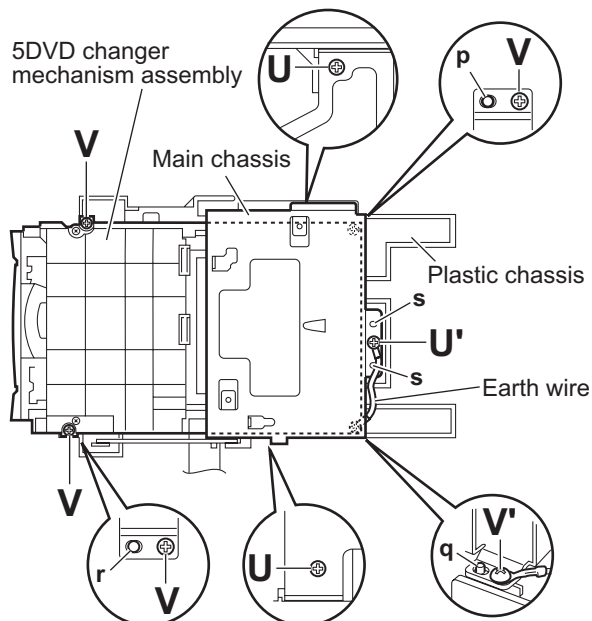

Fig.23
- (4) From the both and top sides of the 5DVD changer mechanism assembly, remove the two screws **U** and screw **U'** attaching the main chassis. (See Fig.23.)
- Align the projections **s** of the plastic chassis to the holes of the main chassis before attaching the screw **U'**. (See Fig.23.)
- When attaching the screw **U'**, attach the earth wire with it. (See Fig.23.)
- (5) Take out the main chassis.
- (6) From the top side of the 5DVD changer mechanism assembly, remove the three screws **V** and screw **V'** attaching the 5DVD changer mechanism assembly on the plastic chassis.
- When reassembling, align the projections (**p**, **q**, **r**) of the plastic chassis to the holes of the 5DVD changer mechanism assembly before attaching the screws **V** and **V'**. (See Fig.23.)
- When attaching the screw **V'**, attach the earth wire with it. (See Fig.23.)